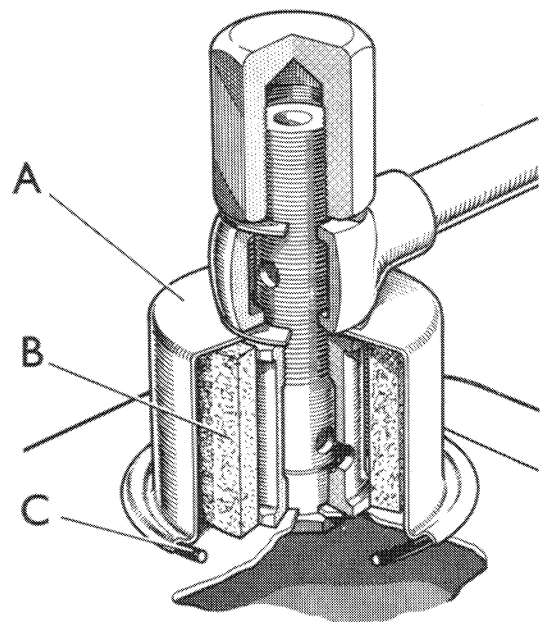

Figure 1. ENGINE BREATHER
**Engine Breather:** Remove the domed nut from top and remove the pipe. Lift the cover off and remove breather element. Clean the top of rocker cover and fit a new element. Replace breather cover, ensuring that the 'O' ring is correctly located in the cover lip and replace pipe and nut. Failure to change the breather element could cause excessive pressure to build up in the crankcase with resulting oil leakage from the crankshaft seals. (Fig. 1.)